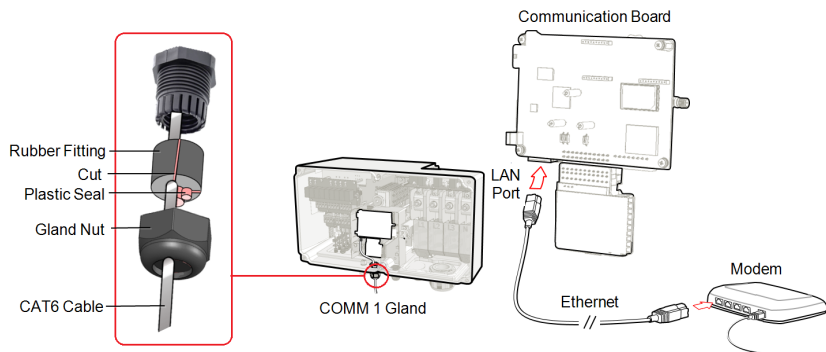

Figure 29: Inserting the Ethernet (CAT6) cable
- Connect the Ethernet connector to the RJ45 port on the communication board as shown in *Figure 29*.